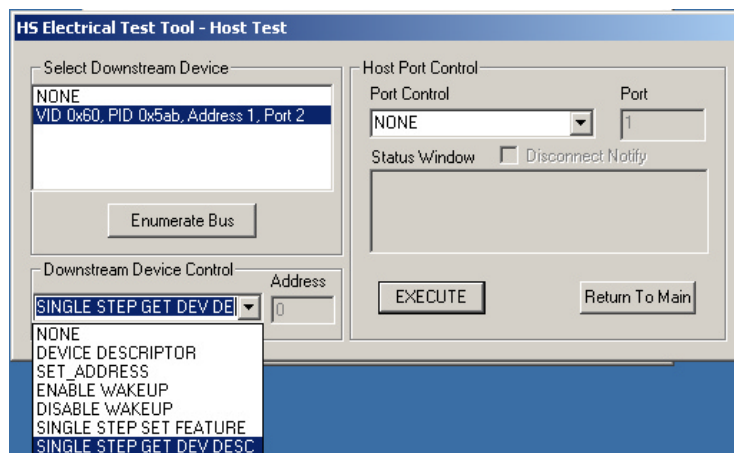

Figure 12. Single Step Get Descriptor
- a. Select SINGLE STEP GET DEV DESC from the Downstream Device Control menu and click [EXECUTE] once (Figure 12)